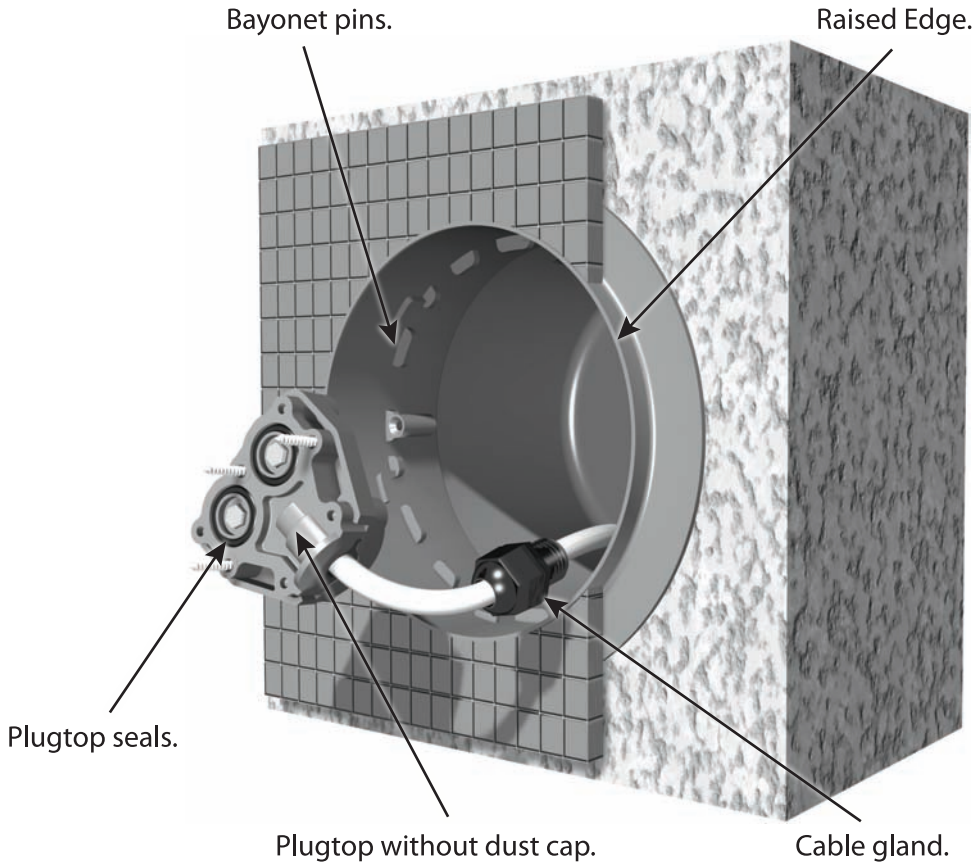

Fig.5
**CAUTION:** Do not install the light until after the pool has been acid washed. (Fig.5)